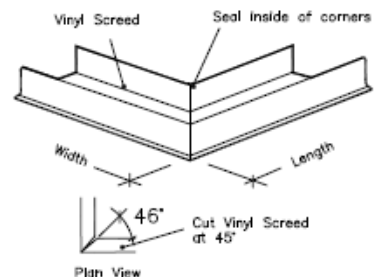

FIG. 9 – VINYL CHANNEL SCREED
- Apply a 3/8" bead of non-drying butyl sealant as shown in Fig. 9, 10 and 11.